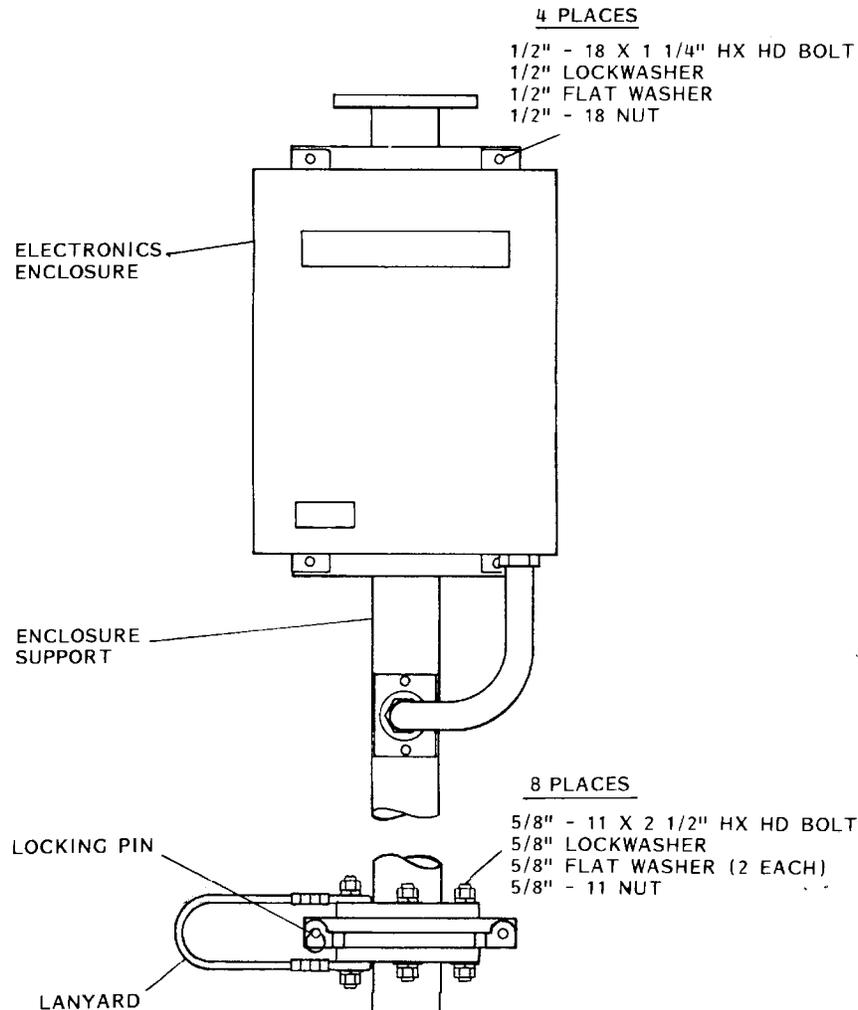

Figure 6.2.1. Electronics Enclosure Installation
6.2.2.2 **Enclosure Support.** The base of the enclosure support consists of a flange containing 12 holes. Each of the holes is offset 30 degrees from adjacent holes to allow proper positioning of the enclosure support on the mounting hinge. The enclosure support is mounted on top of the hinge plate assembly using four 5/8-inch hex head bolts and associated hardware (figure 6.2.1 and table 6.2.1). Alignment of the enclosure support on the hinge plate is important to the operation of the unit. The visibility sensor should be installed such that the receiver optics and the day/night assembly are pointed away from direct sunlight. In the northern hemisphere, this aligns the receiver and day/night sensor to face north. Precise alignment of the visibility sensor may not be possible and is not considered critical; however, for the best performance, the hole pattern that provides the closest receiver alignment to face north should be selected.
6.2.2.3 **Electronics Enclosure.** Figure 6.2.1 identifies and locates the components used to install the electronics enclosure on the enclosure support. Installation procedures are provided in table 6.2.2.
4	Install hardware as shown on figure 6.2.1. Firmly tighten all four sets of bolts.